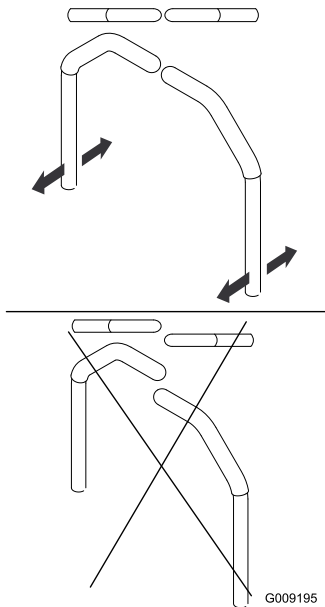

Figure 80
4. Align the levers front to rear position by bring the levers together to the NEUTRAL position and slide them until they are aligned, then tighten the bolts (Figure 80).